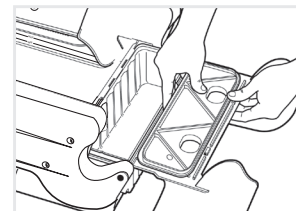

Fig. 2
- Place a disposable waste receptacle under the waste receptacle compartment cover. Make sure that the front of the waste receptacle is under the five tabs (Fig.-1). There should be no gap between unit and the waste receptacle. Attach waste receptacle lid by inserting pushtabs into the round holes. To secure, press on positions indicated (Fig. 2).